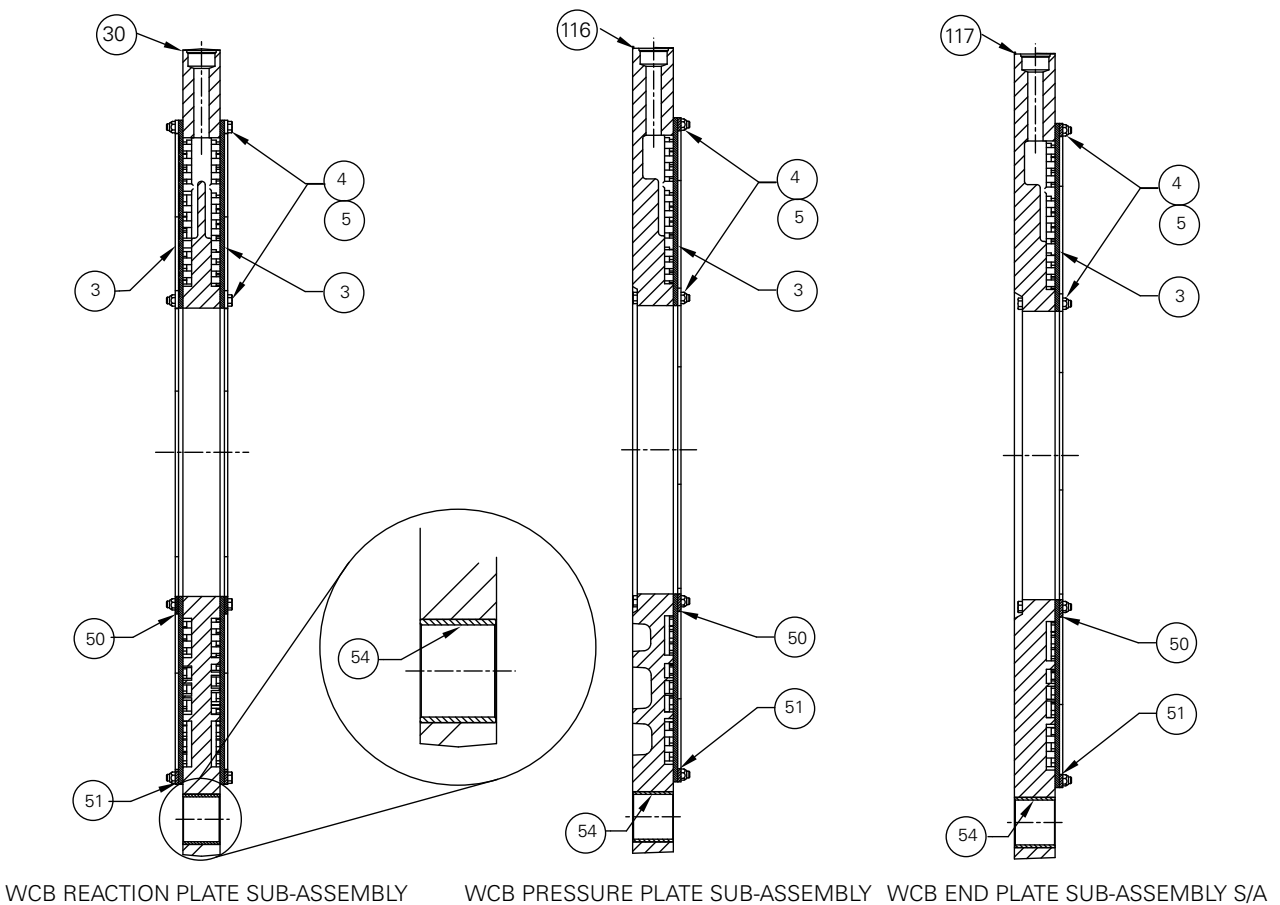

Figure 14
Note: The reaction plate (13), pressure plate (30) and end plate (117) have bushings (54) installed in the reaction holes (Figure 14). The reaction plate, pressure plate and end plate bushings are different lengths. Be sure to install the correct length bushing in the proper component. Refer to the reaction plate, pressure plate and end plate sub-assemblies in the parts list (Section 6) for the selection of the proper replacement bushing. Replacement of the bushings can be performed per the following procedures.
- 4.8.2 Refer to Table 13 to determine if the reaction plate bushings (54), in Figure 14, require replacement.